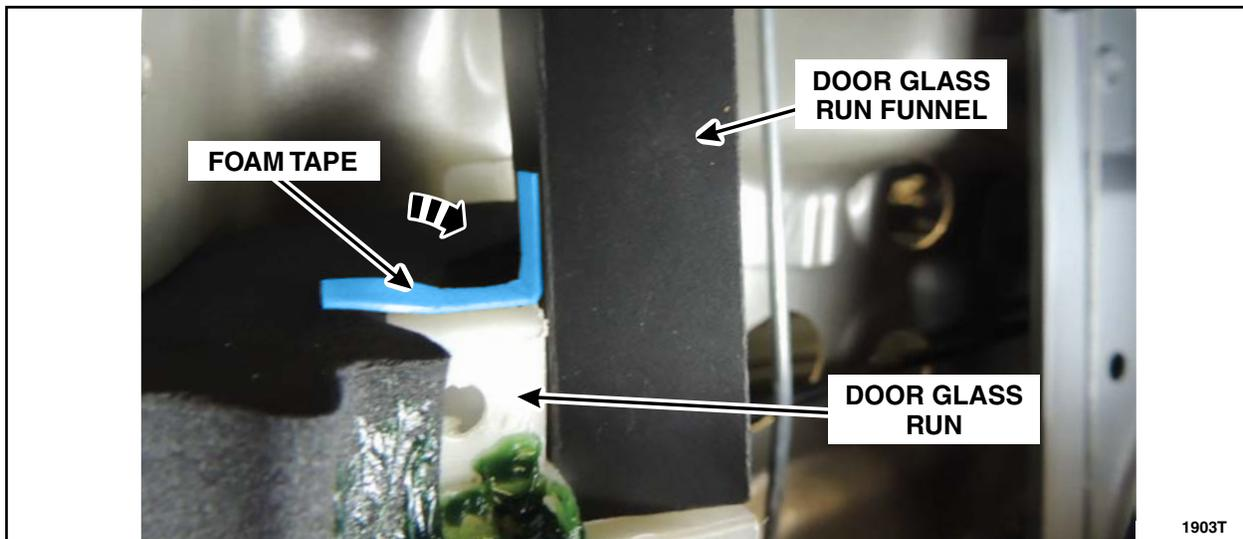

FIGURE 8
13. Install the Foam Tape on the top of the door glass run and on the back of the door glass run funnel as shown in Figure 8.